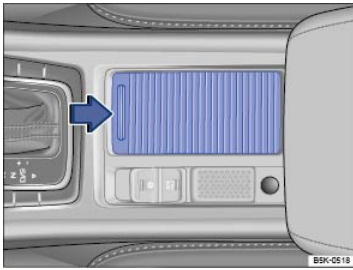

Fig. 139 In the front center console: Opening the cup holder cover (if equipped).
- To open the cover: Pull the cover to the rear ⇒ Fig. 139 (arrow).